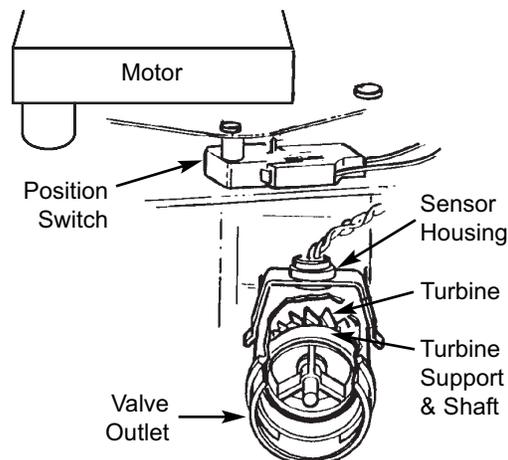

FIG. 20
**NOTE:** If you don't get a reading in the display with faucet open, pull the sensor from the valve outlet port. Pass a small magnet back and forth in front of the sensor. If you get a reading in the display with the magnet, unhook the in and out plumbing and check the turbine for binding (See Figure 20).